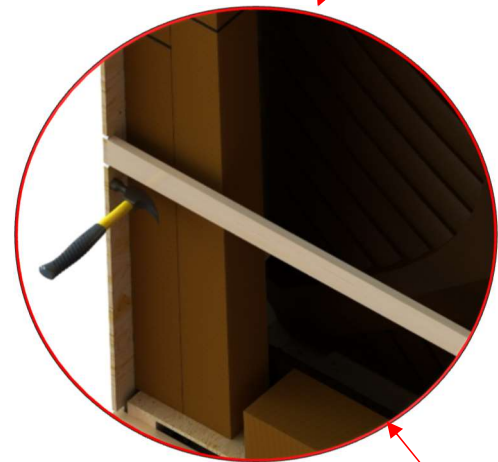

Figure 33
- 3) Hammer off the wood furring strip by hitting on the inside of the side panels. (Figure 33)
- ◆ Be careful not to damage the cover components and other parts in the crate. (Figure 33)